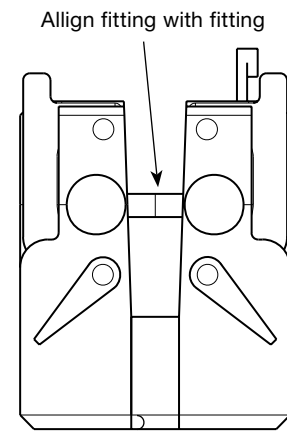

Figure 24 Aligning the Micro-Fit Fittings
7. Align the two Micro-Fit fittings by adjusting the side plate that is loose. See Figure 24.